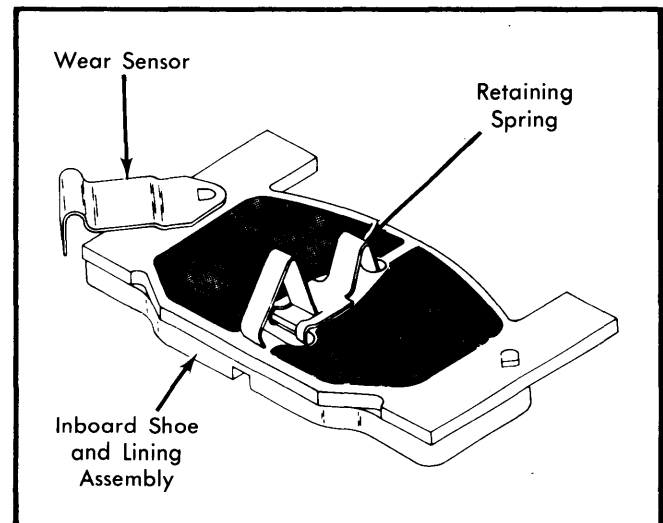

Fig. 2 View of Inboard Shoe and Lining Showing Correct Retaining Spring Installation
2) Install retaining spring on inboard shoe as shown in Fig. 2. Install inboard and outboard shoe and lining assemblies into caliper. Check outboard shoe and lining for radial and end play. If play exists, remove shoe from caliper and bend shoe tabs as necessary to eliminate play. Reinstall shoe in caliper.